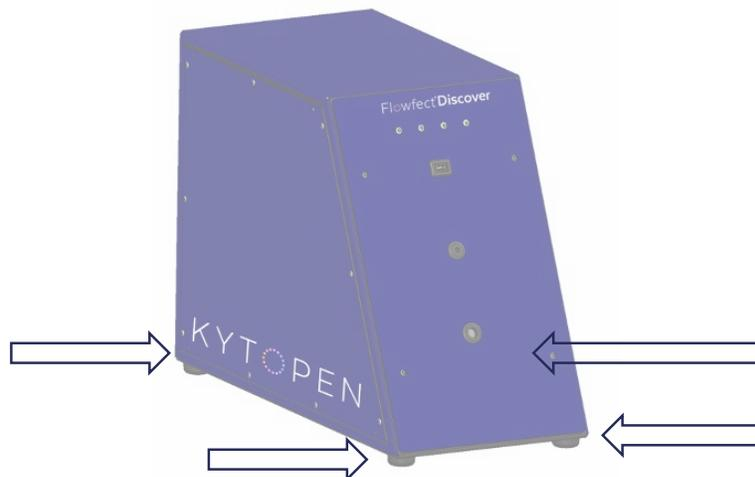

Figure 4: Hold the control unit at the bottom corners when moving it
- 8.3.4 When it is necessary to move the *control unit*, lift the instrument by *two persons*, holding the instrument at the bottom corners of the unit at the locations indicated in Figure 4 below.